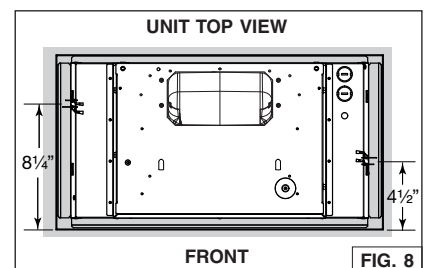

FIG. 8
- Pay attention to the Ease of Install hooks location on the unit (distance given from unit front flange, FIG. 8). Measure and mark the position of the Ease of Install hooks (shown as E in FIG. 9) on both cabinet side walls. Remove the unit.